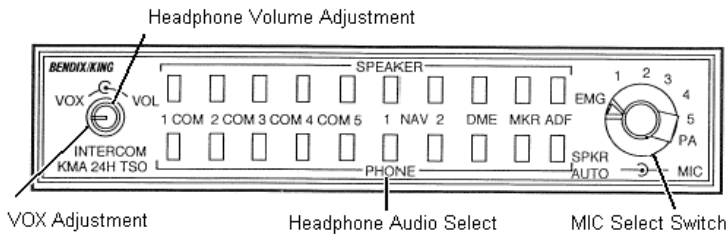

Figure 7-4. KMA 24H Audio Panel
3. The KMA 24H display and controls are shown in Figure 7-4. The functions are briefly explained in Table 7-2. When either the pilot or co-pilot keys the microphone to transmit, all other microphone inputs are muted to insure that the keyed microphone is the single source of the transmitted audio.